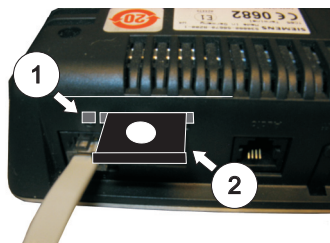

Figure 295:
5. Slot the SIM Card Adapter carefully back into the Modem. The SIM card should be face down as shown in Figure 295.